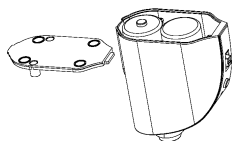

Figure 4
2. Please refer to figure 4 for the installation of batteries to avoid wrong polarity that may damage the virtual wall.